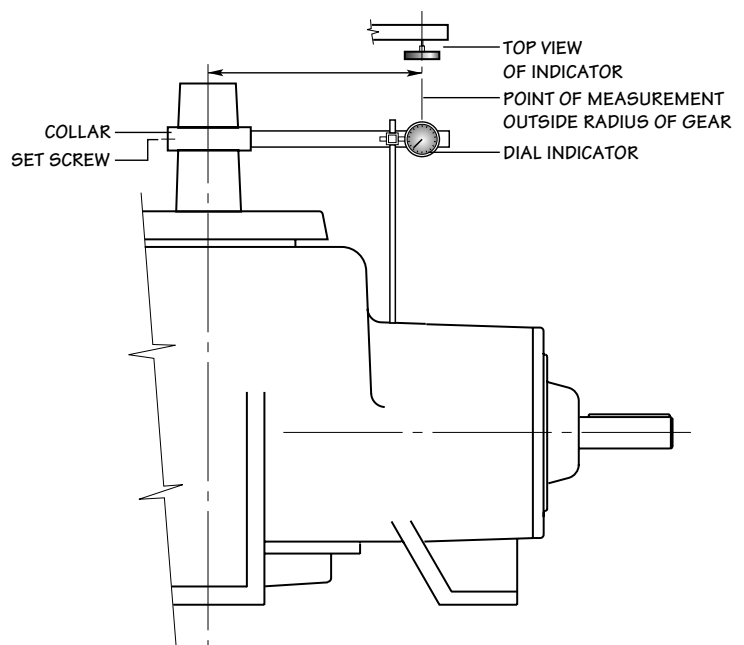

Figure 5 Gear Backlash Measurement
2. With the X marked tooth on the pinion gear engaged between the two X marked teeth on the ring gear, check the backlash with a dial indicator as shown in **Figure 5**. Lock the pinion shaft against rotation. The amount of movement of the fan shaft, measured at a distance equal to the outside radius of the ring gear is the backlash. Obtain the backlash setting by adjusting the ring gear axially by removing or adding shims (420) at the bottom bearing cap.